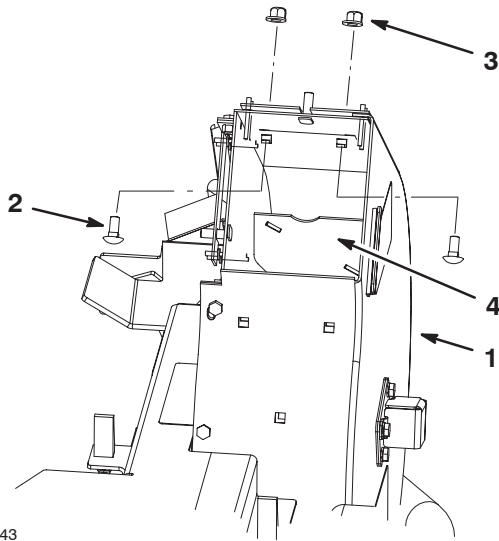

Figure 30
- Loosely install 2 bolts into the liner and the blower (Fig. 30).